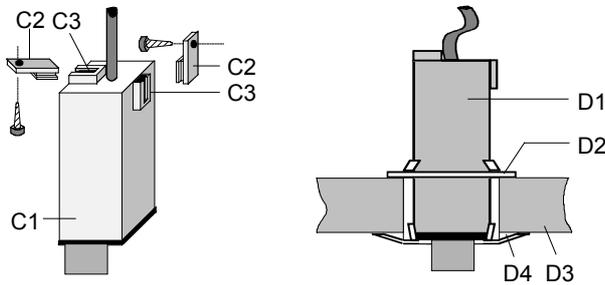

Figure 4: Mounting the receiver
**Mounting the receiver** (Figure 4)
- The receiver of the brightness controller GE 254 alternatively can be fixed to a mounting support (see Figure 4).